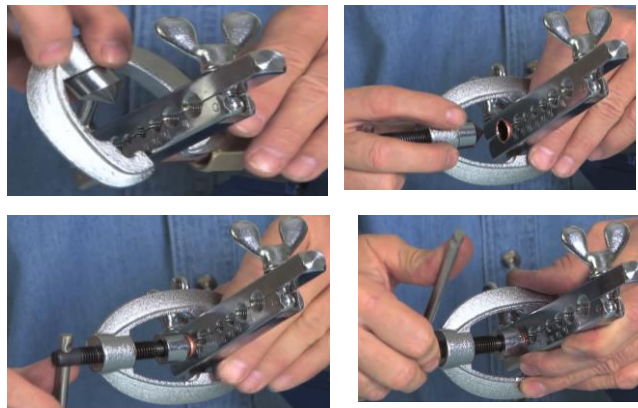

Fig.2.47 Tighten the flaring cone over the tube
Step 6 – Take a flaring cone and slide it over the tubing clamp. Tighten the flaring cone over the tube as shown in Figure 2.47